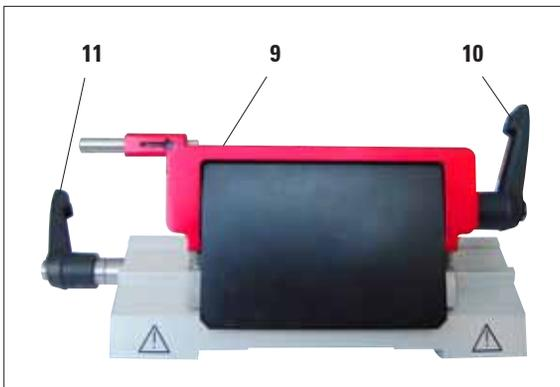

Fig. 6
The knife guard on knife holder E consists of a red foldaway handle. To cover the cutting edge, fold the knife guard handle (9) upwards as illustrated in Fig. 6.